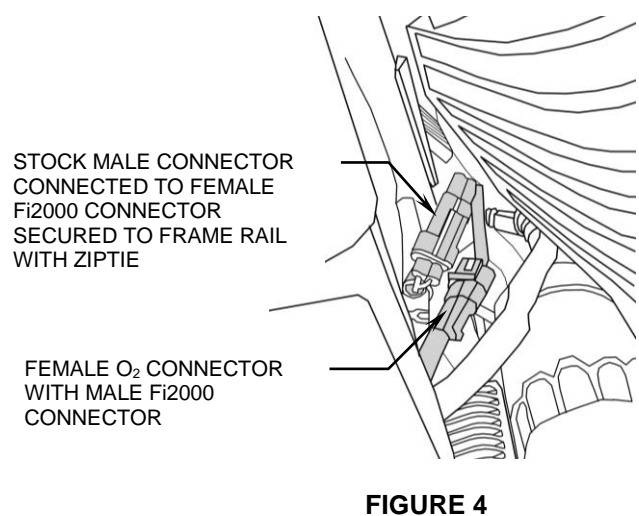

FIGURE 4
8. Route the harness behind the rear brake assembly and then up the front right frame downtube so the connectors end up at the cross member where the front O₂ connection is located. Ziptie the Fi2000 harness to the right downtube. Cut the 2 zipties holding the factory connection, unplug the connection, and then plug in the corresponding Fi2000 connectors into the factory connectors. Re-ziptie both connections along the frame cross member, using the original ziptie holes, Figure 4.